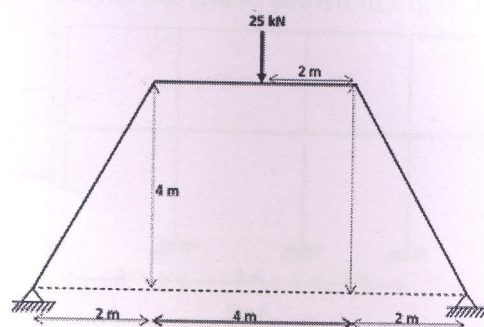

Fig. 2
2. Using moment distribution method, analyse the frame supported and loaded as shown in Fig. 2. Draw BMD. [10]